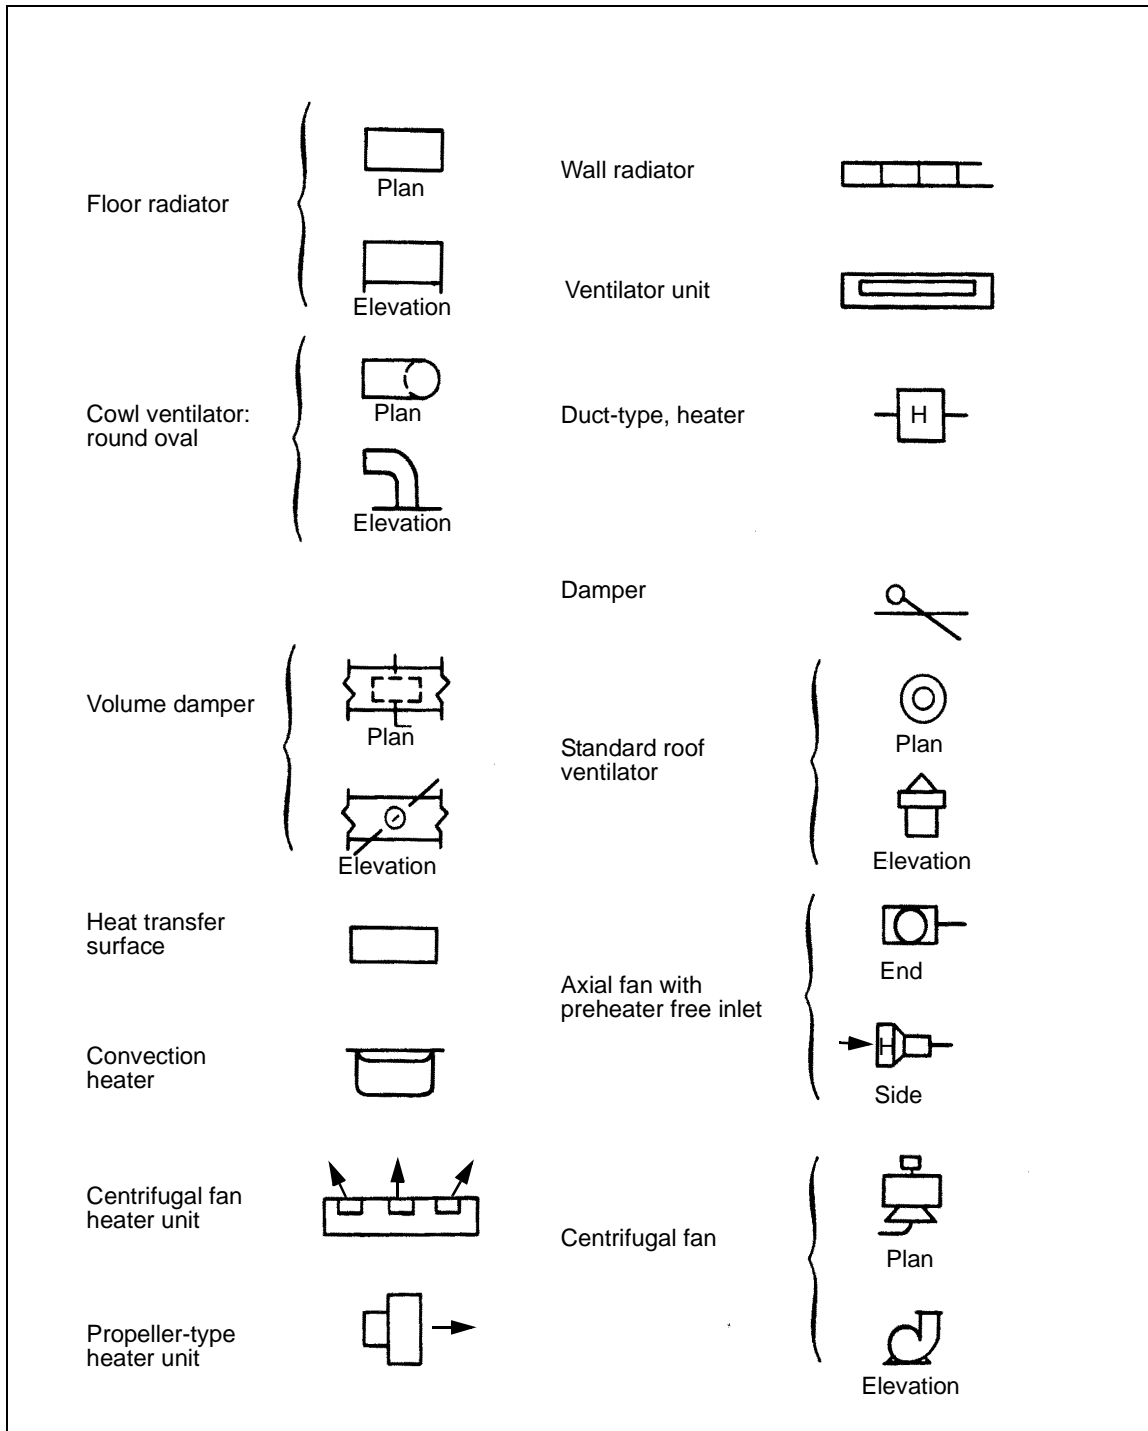

Figure B-11. Heating Fittings and Fans
- Heating Fittings and Fans (*Figure B-11, page B-12*).